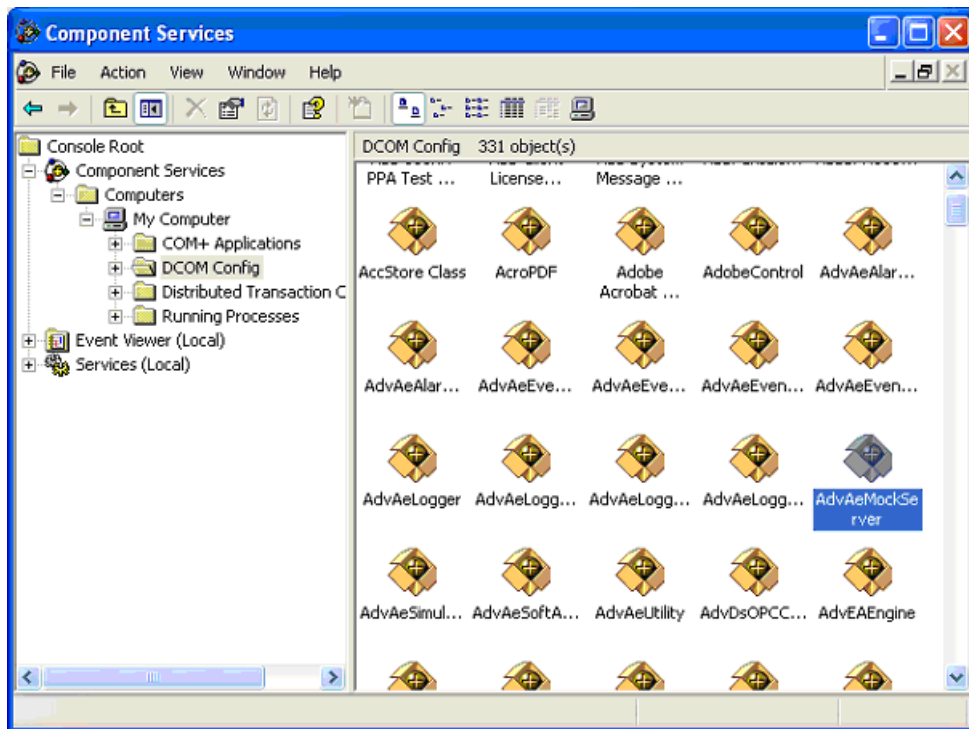

Figure 339. Component Services
2. Locate the server that should be activated remotely. See Figure 339.